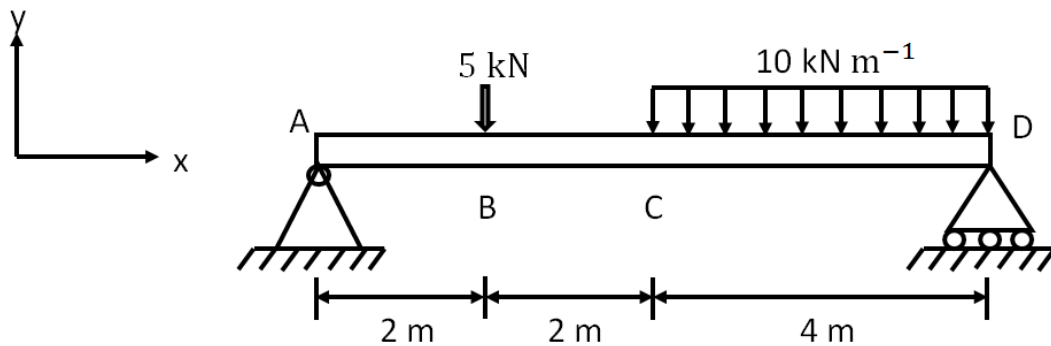

Fig. Q 3 (c)
- c) Use unit load method to find the deflection at the center of the beam shown in Fig. Q 3 (c). Take: $E = 0.2 \text{ GPa}$ and $I = 400 \times 10^6 \text{ mm}^4$. (14 marks)